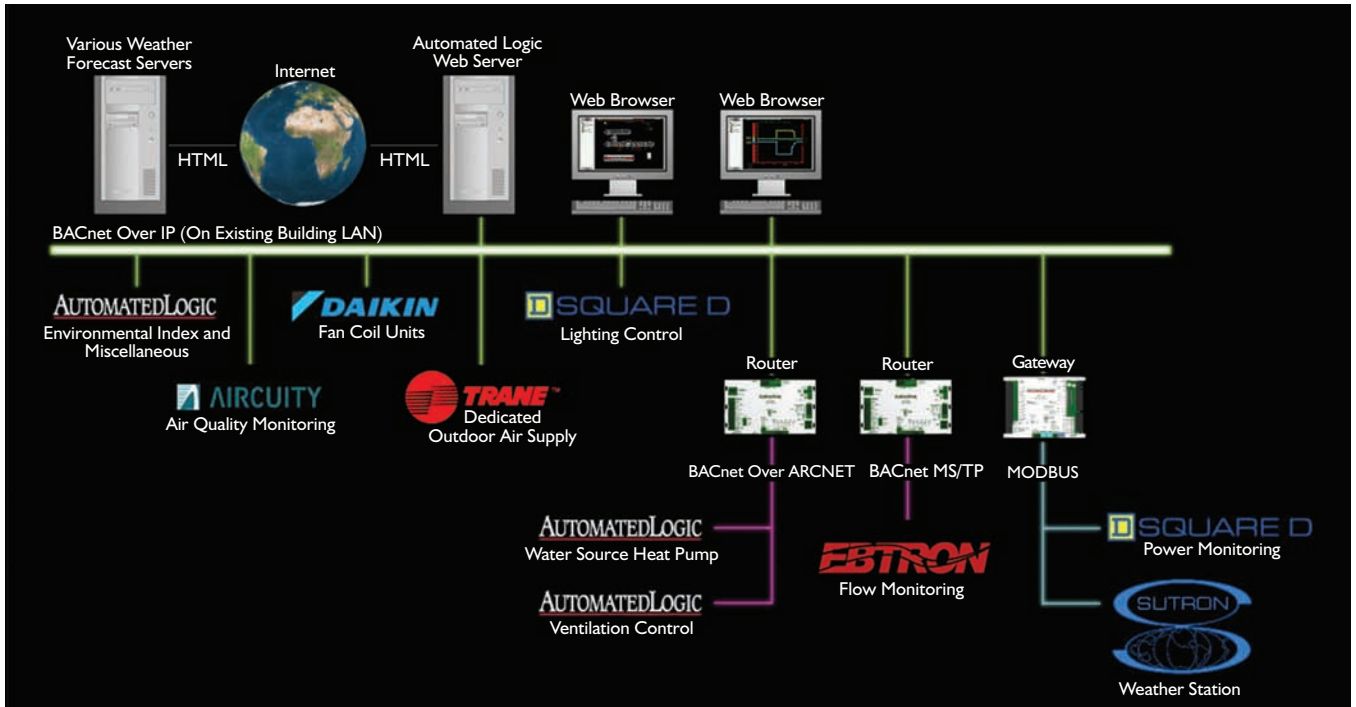

Figure 1: Controllers monitor overall building conditions and miscellaneous monitoring systems.
system. A conceptual network diagram of this system is shown in Figure 1.
Figure 1 shows that controllers that monitor the overall building conditions and miscellaneous monitoring systems (environmental Index,3 refrigerant leak monitoring, photovoltaic power monitoring, etc.) are connected directly to the BACnet/IP backbone. This network also has an indoor air quality monitoring system. The air monitoring system automatically retrieves air samples from throughout the building, and tests the samples for CO2, particulates, and humidity using laboratory quality sensors.
At the top level, a Web server collects information from all the vendors' equipment and generates Web pages that provide the user interface to the system. Depending on the privileges assigned to them, users can view the system, run reports, make minor adjustments to setpoints and other operating parameters, or make major changes to the control logic through a standard Web browser. These browsers can be connected to the local building network or anywhere with Internet access. As shown in *Figure 1*, this Internet link also allows weather forecasts to be incorporated into the BAS Web pages. If the weather data had been needed by control applications, a BACnet Web services link could have been established, but since the information is only being presented as information on a graphic a simple html link between Web pages is used. A Web services link will be used in the future to extract data from the system and make it available to researchers accessing the Living Lab data.
*Figure 1* shows how everything should connect in theory. How does it work in the real world? Very well, according to Charles Miltiades, an engineer with Automated Logic of Georgia and the primary controls designer on the project. "We provided the equipment suppliers with the device instance numbers and IP addresses we wanted them to use, and then we used BACnet discovery to map their points."